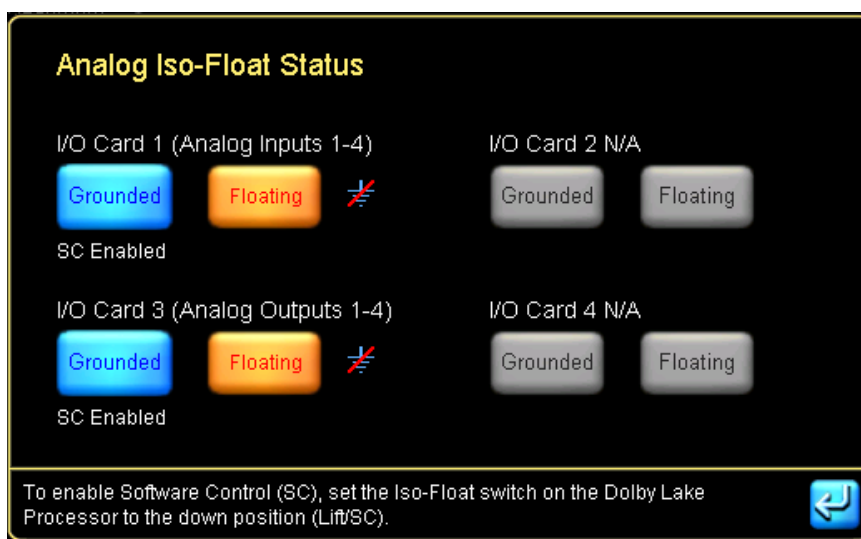

Figure 7-15: Analog Iso-Float Status
- ▶ If the switch(es) on the Lake Processor are set to LIFT/SC, the screen shown in Figure 7-15 can be used to set the ground/lift status.